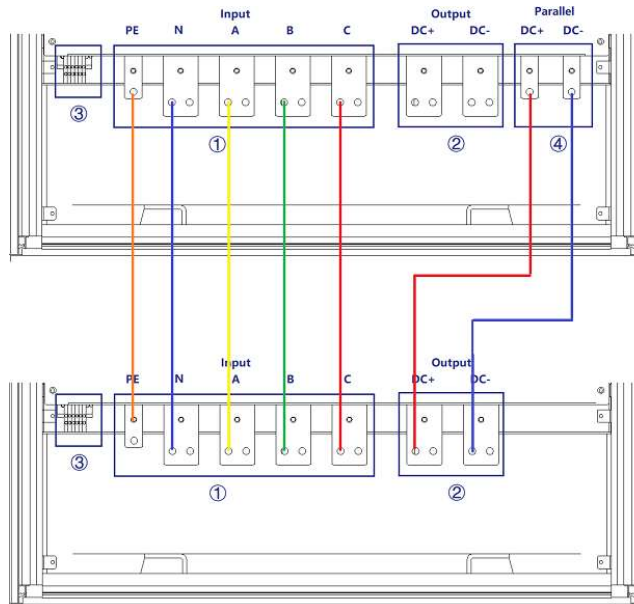

Figure 2-13 Parallel input and output cables connection
**Step 4:** As shown in Figure 2-13, connect the input and output parallel cables of the two equipment.